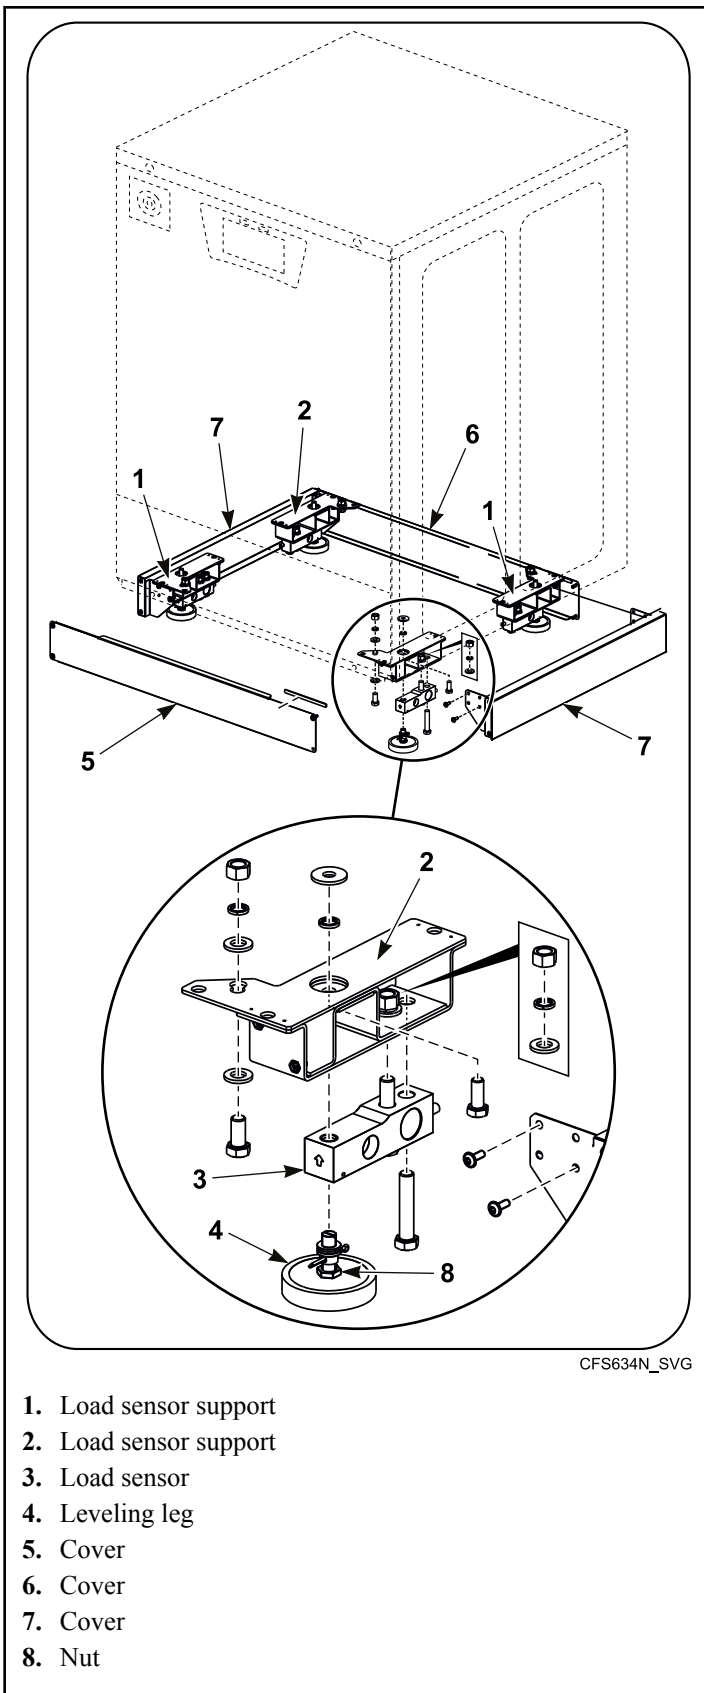

Figure 11
2. Install two left load sensor supports and two right load sensor supports to the machine frame. Refer to *Figure 11*.
11. Install the covers. Refer to *Figure 11*.